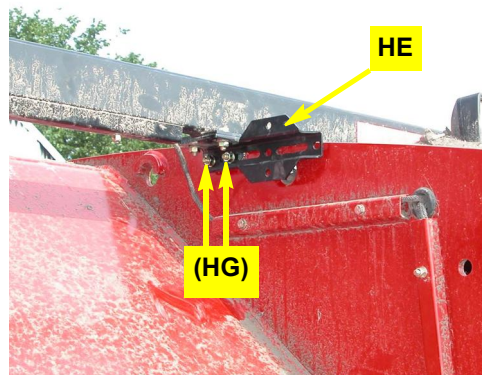

Figure 2b: Installed steering block mounting bracket (use HG if necessary)
- b. Using the two removed bolts, install the steering block mounting bracket **HE** at the light bar mounting bracket. If your tractor is not equipped with a light bar use the hardware **HG** to install bracket **HE** (Figure 2b).